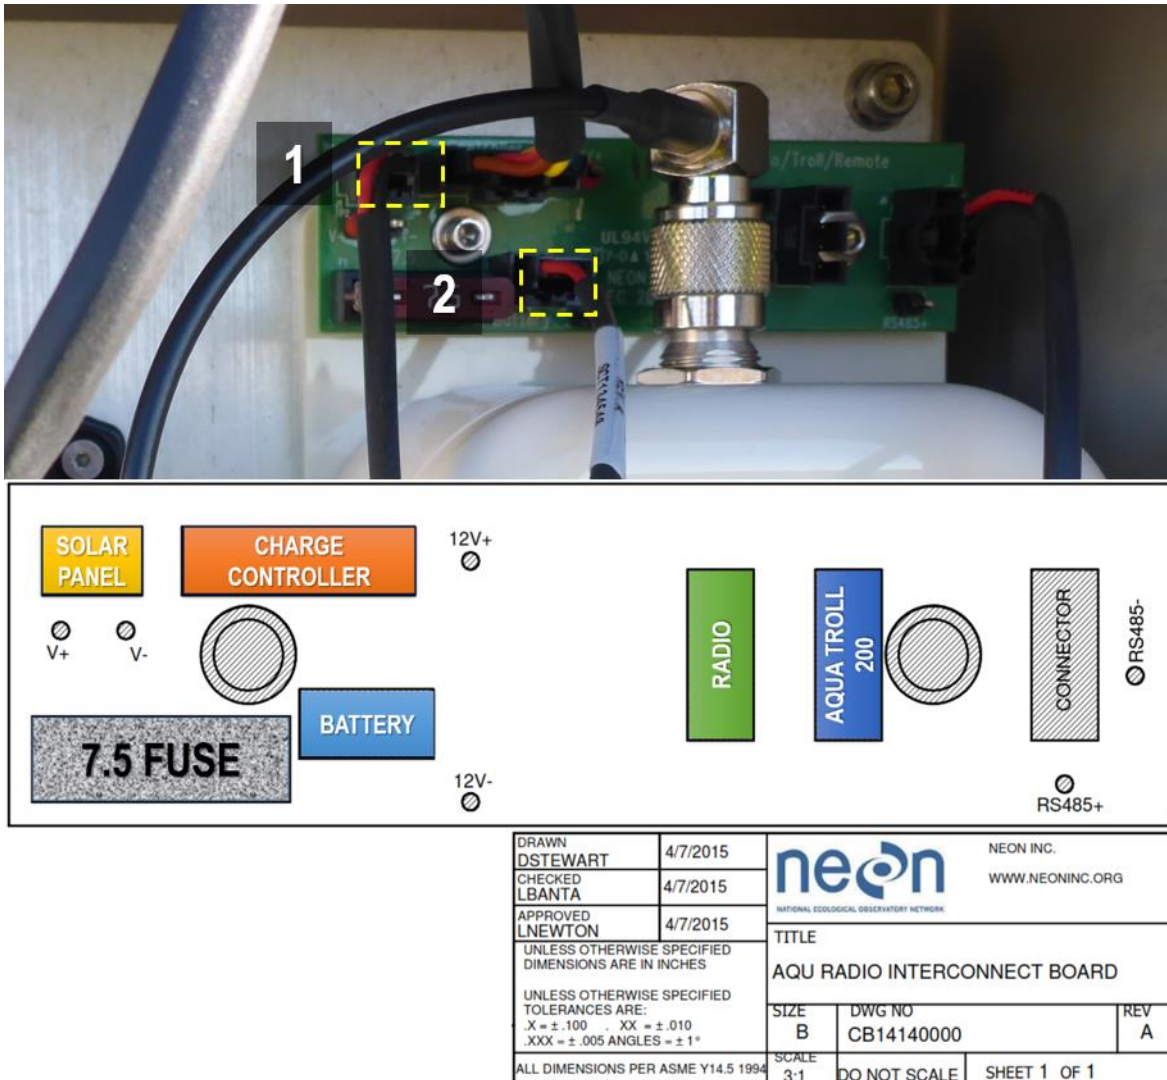

Figure 26. Solar Panel and Battery Connector from the Junction Board (CB14140000)
- Unplug the solar panel and battery connector from the junction board (CB14140000) using Figure 26. **Squeeze the locking tab prior to pulling the cable from the board. Be gentle to prevent un-seating any of the pins in the connectors.**
5. Plug in the battery in the upper right hand corner of the NEMA enclosure (see Figure 26 for location). **Only connect the battery when the Lake Inlet/Outlet instruments are in place and connected to the Radio/Power box components.** The solar power system does not have switches to control for power like the alternate power system.
6. Plug in Solar Panel connector to the junction board (CB14140000) using Figure 26.